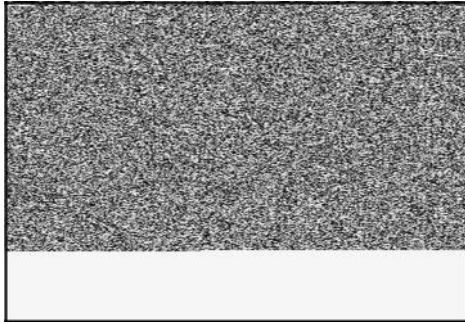

Figure 16
4. Install air cleaner cover. Press on tab (**A**, Figure 16) until finger guard attaches to engine.